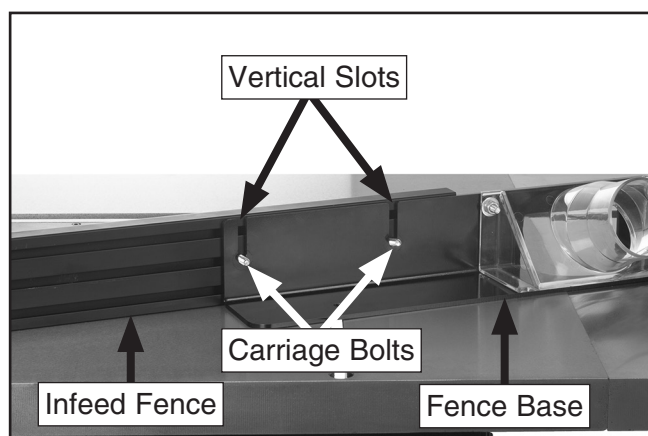

Figure 22. Infeed fence installed on fence base.
14. Align carriage bolts with vertical slots in fence base and install infeed fence (see **Figure 22**).